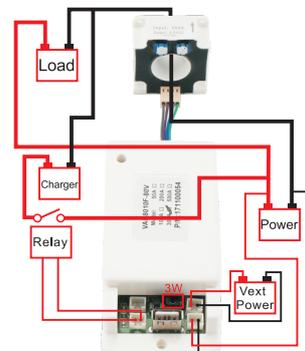

Figure 3-3
**3). Charge Relay Wiring Instruction (Figure 3-3)**